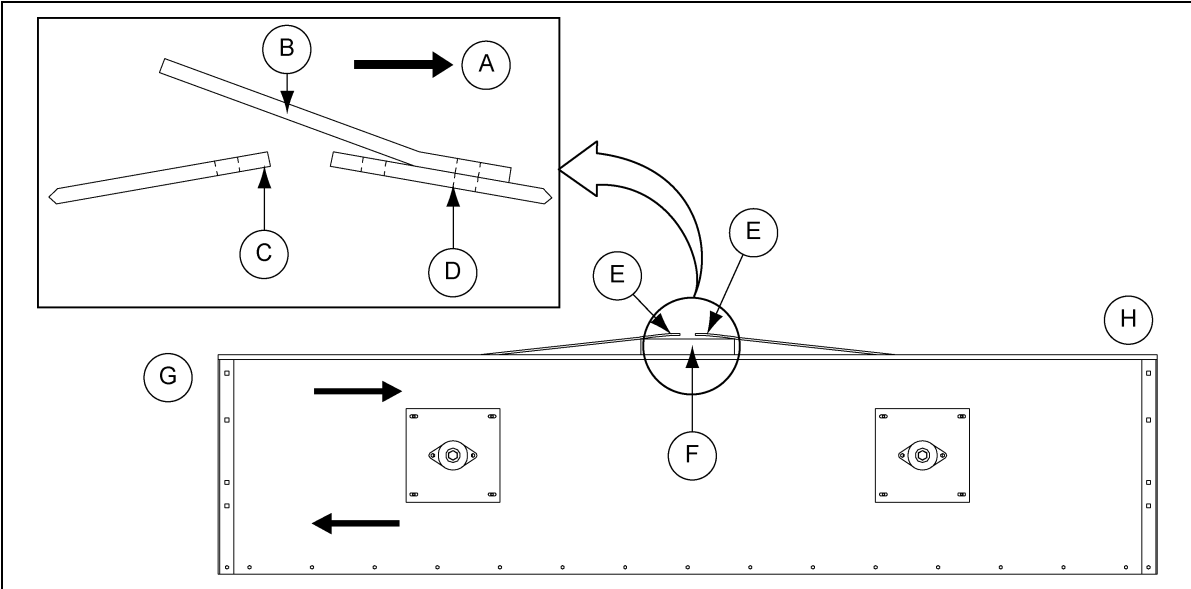
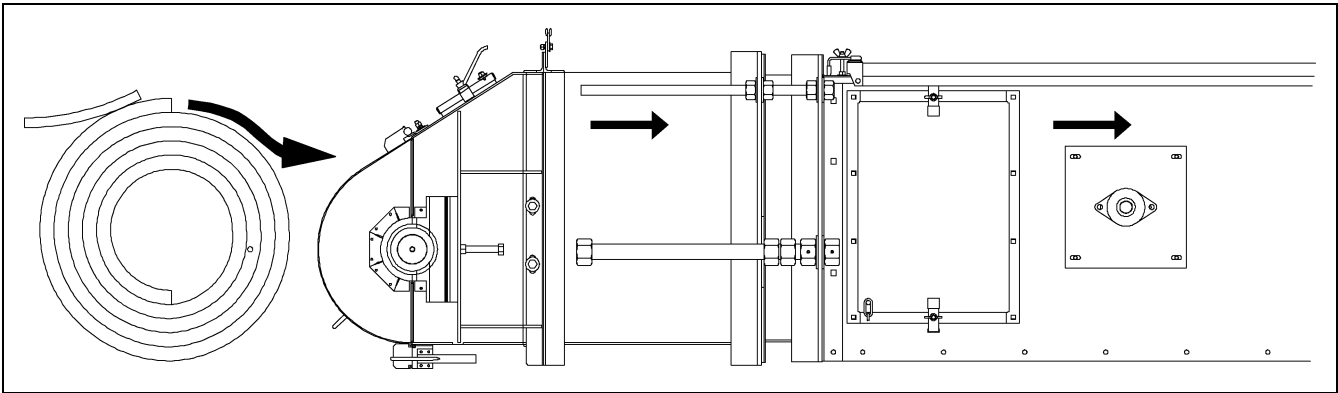

Figure 6D Intermediate Section with Covers Removed
Figure 6E Detail Installation of Belting into Conveyor
1. Hand thread the belt through the conveyor with the tail section in a retracted position. Attach a tightening device to each end of the belt to prevent damage to the belt. Place a 2" x 12" piece of wood width wise on top of an intermediate section where the belt ends are to be brought together. Bring the belt seam together over the 2" x 12" piece of wood for a working surface to be used for splicing. (See Figure 6D and Figure 6E.) The belt splice can now be installed following step-by-step directions on Pages 33-36.
IMPORTANT: Install belting into tail end. Note the direction of the flippers on belt. Flippers are installed to aid in cleanout of tail shroud. (See Figure 6E.)